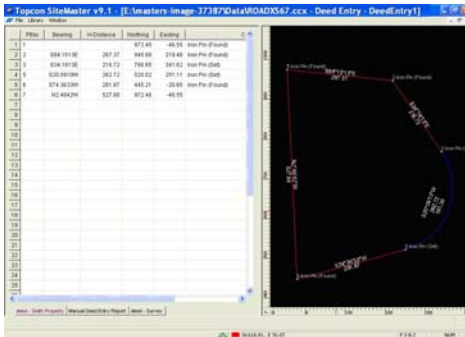

Figure 12-19. Example Deed Entry
- In the *Deed Entry* dialog box, enter the coordinates and point number for each point (Figure 12-19).